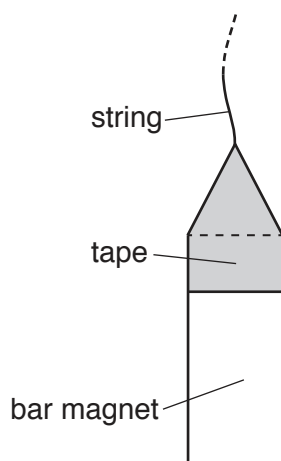

Fig. 2.2
- 2 Use adhesive tape to attach the string centrally to the bar magnet as shown in Fig. 2.2.